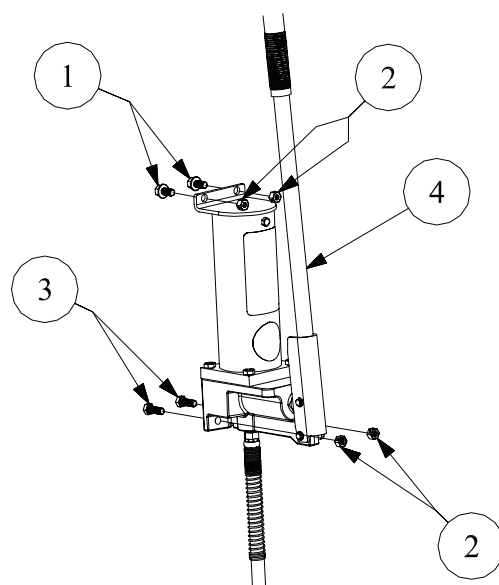

Figure 1
1. Insert the two 3/8" x 3/4" flange head bolts [#1] through the holes in the pump [#4] as shown in Figure 1 and start two 3/8" nuts [#2] onto the bolts. Only start the nuts [#2] one or two turns onto the bolts [#1].
2. On the opposite end of the pump [#4], insert two 3/8" x 1" bolts [#3] and start a 3/8" nut [#2] on each bolt. See Figure 1. Only start the nuts [#2] one or two turns onto the bolts [#3].